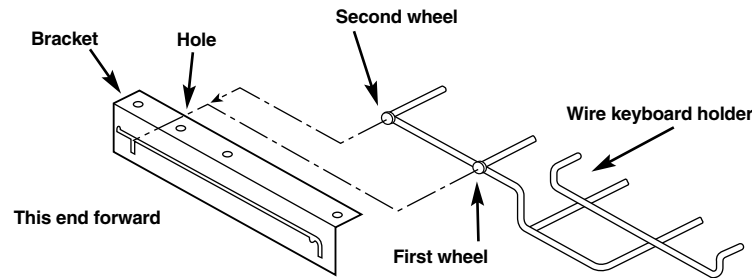

Figure 3-12. Attaching the keyboard holder to the metal bracket.
1. When attaching the keyboard holder to the sheet metal bracket, insert the first tiny wheel through the large hole at the back of the bracket. See Figure 3-12.